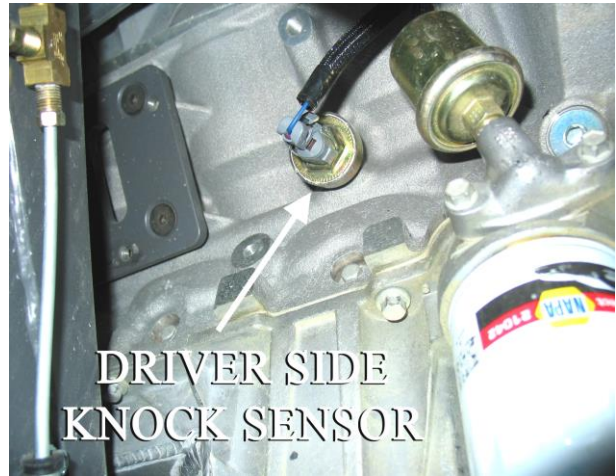

FIGURE 6.8 Knock Sensor Connector
1. Knock sensors will thread into the extra mounting holes on each side of the engine block. See **Figure 6.8** and **Figure 6.23** for the correct location to install the knock sensors.